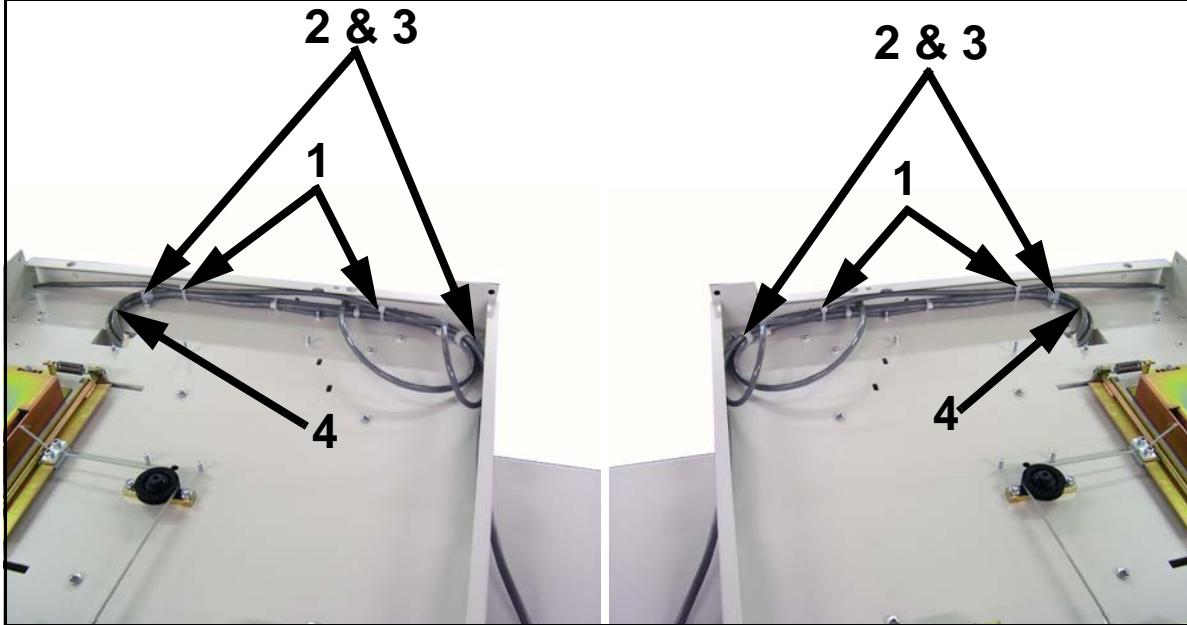

Figure 5-16. Harness Ties & Clamps (Left & Right Configurations Shown)
- 24 Cut cable ties (1 in Figure 5-16).
- 25 Remove nuts (2) and P-clamps (3).
- 26 Pull wire harness (4) out of wallstand.